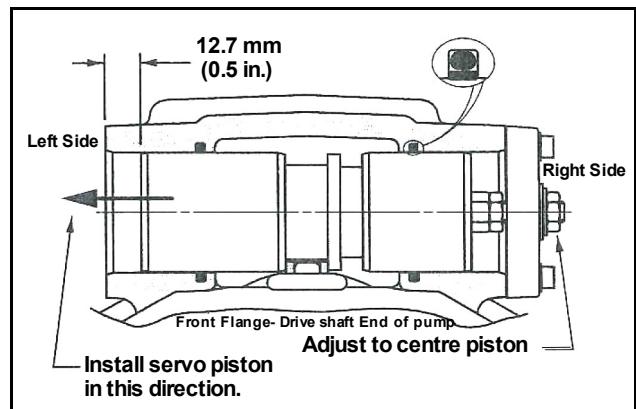

Figure 5-155. Servo Piston Installation
4. Screw the cover plate onto the servo piston assembly. Install new cover plate gasket in place on housing. Install servo piston assembly and cover plate into servo piston bore in right side of housing (as shown in Figure 5-155. Retain cover plate with four each washers and Capscrews. Torque Capscrews 40 to 48 in.lbs (4.5 to 5.4 Nm). To obtain neutral, centering the servo piston assembly is required. Measure in from the left side and set servo piston 0.5 in. (12.7 mm) from surface of housing servo bore as shown in Figure 5-155.